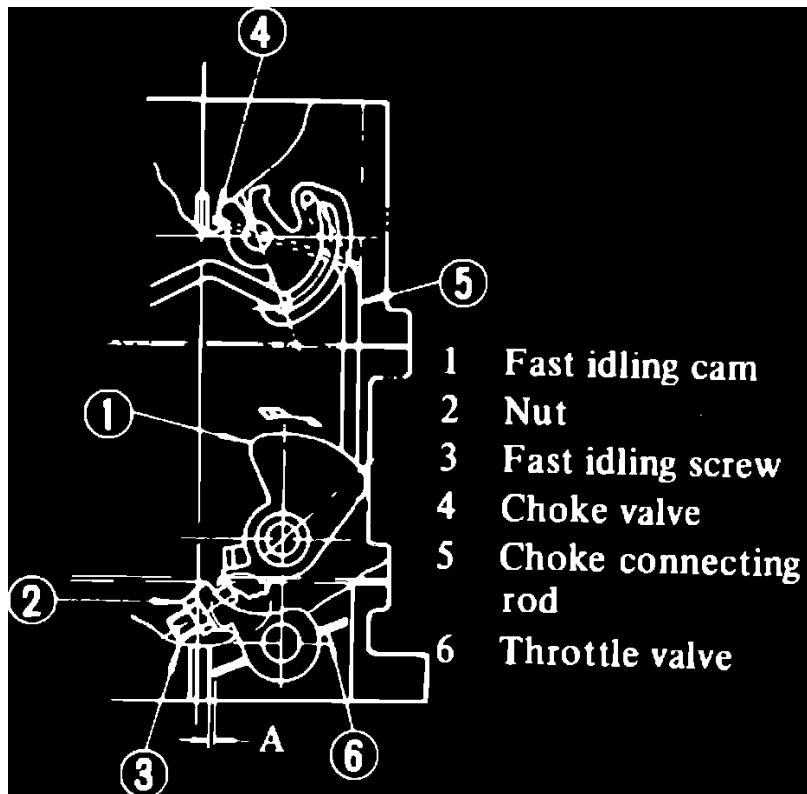

Fig. 15 Fast idle adjustment.
2. Turn fast idle adjusting screw until dimension "A," Fig. 15, is according to specifications.